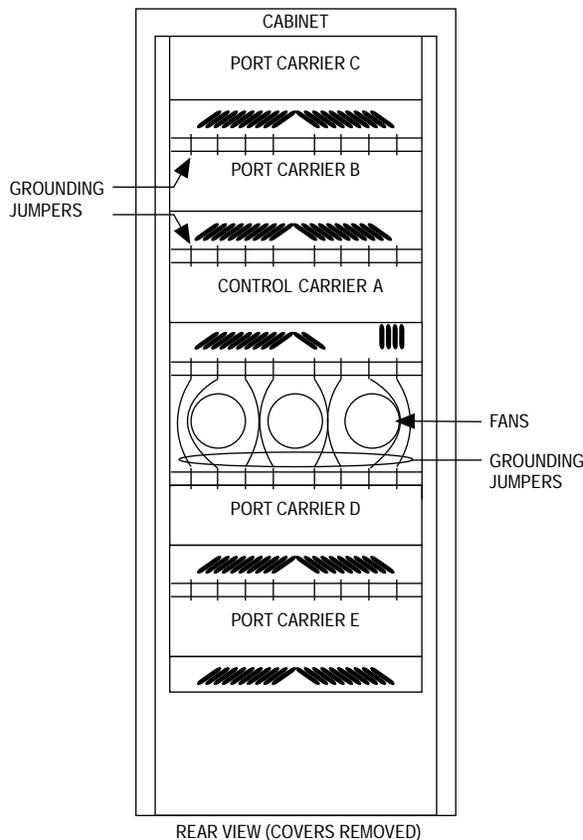

Figure 3-22. R1V3 System Cabinet
2. Disconnect the AHF4 cable adapter from behind slot "07" of control carrier "A" (see Figure 3-22).